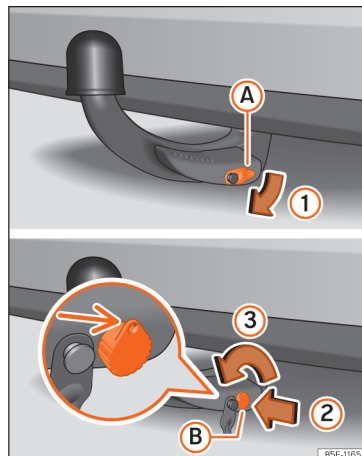

Fig. 177 Removing the tow hook
- Remove cover **A** from lock **1** »» Fig. 177.
- Insert key **B** in the lock **2** »» Fig. 177.
- Turn the key to the left **3** just half turn, until the hole in the key is facing upwards »» Fig. 177.